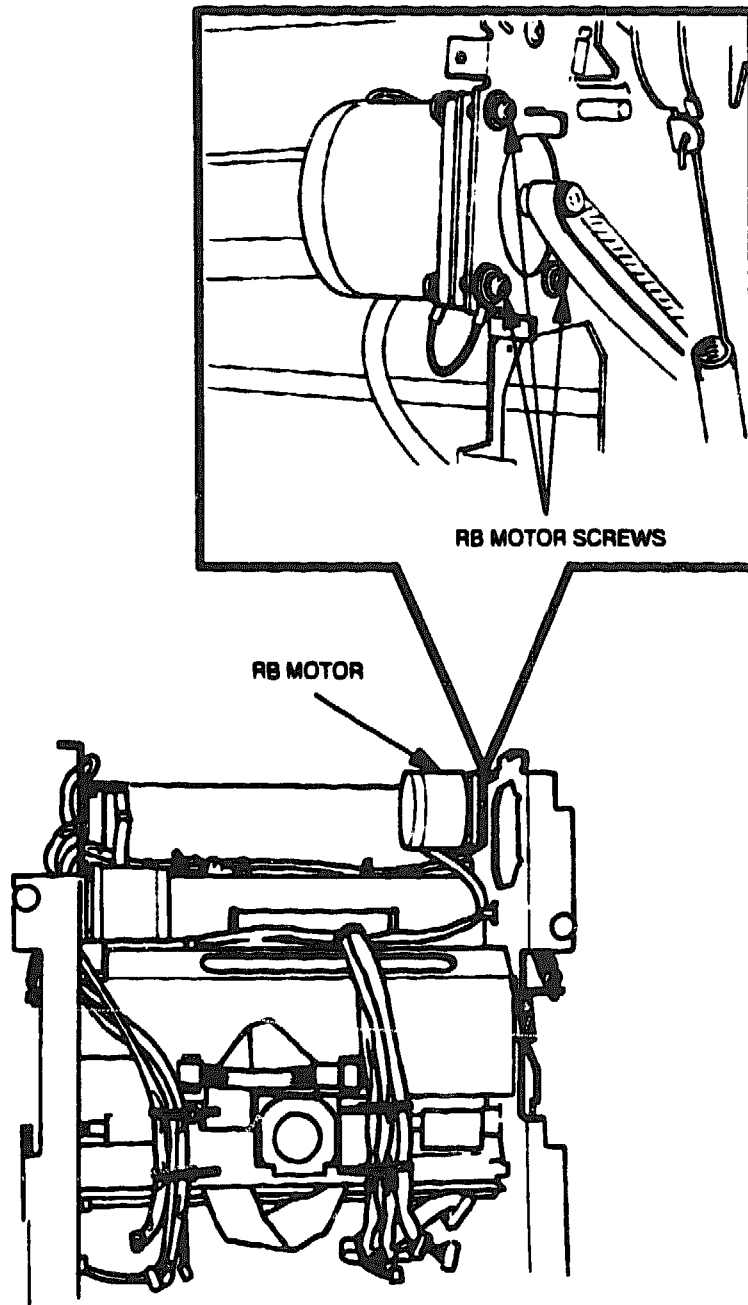

Figure 6-71 RB Motor Screws
2. Loosen the three screws shown in Figure 6-71 securing the RB motor to the lower plate (L).